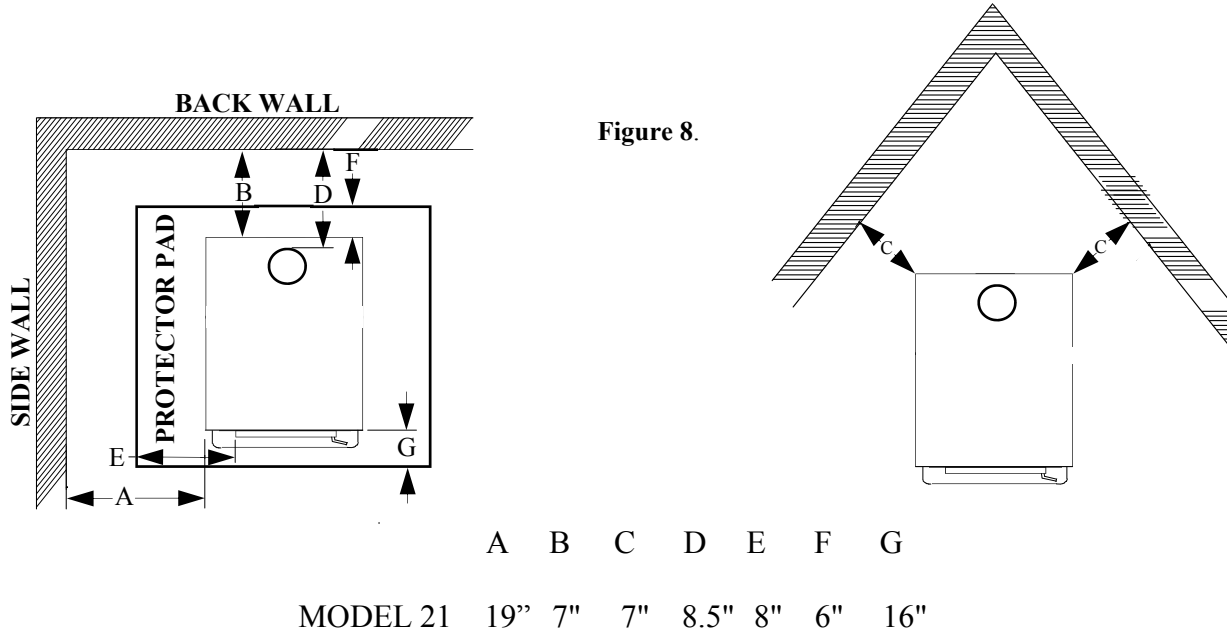

Figure 8.
**NOTE: For minimum clearances (See Page 13, Figure 8).**